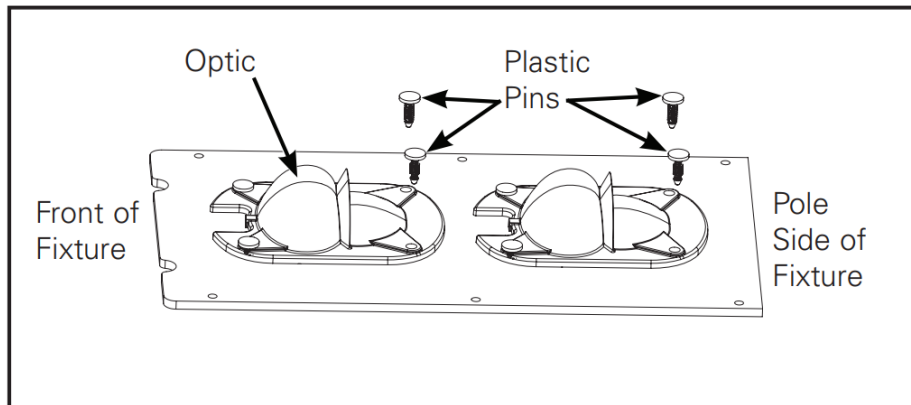
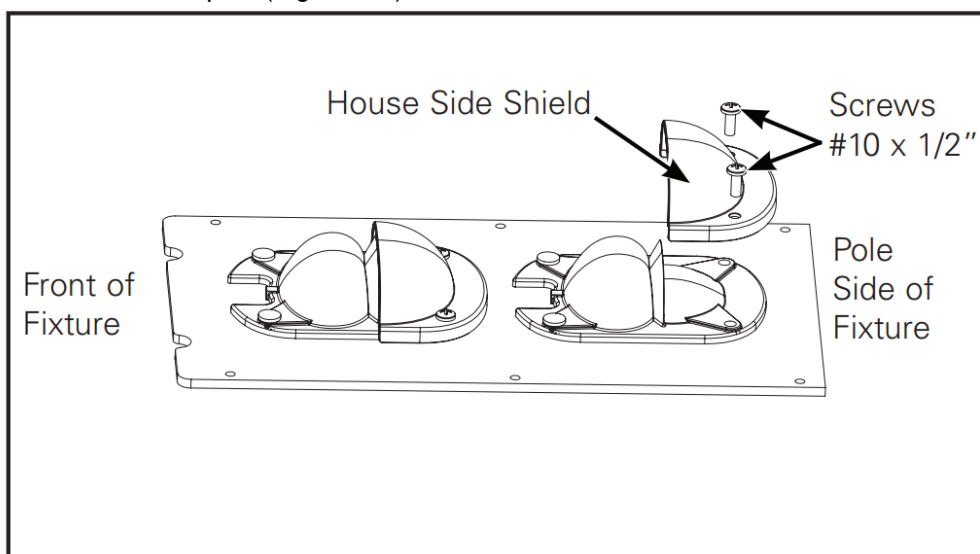

Figure 9.
Figure 10.
House Side Shield (Figure 9. and Figure 10.)
1. Remove plastic push pins on back side of optic. (Figure 9.)
Note: House side shield must ONLY be installed on the back side of the optics as shown in. DO NOT install on the other side of the optic. (Figure 10.)